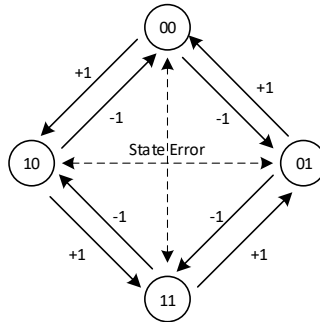

Fig 21-4 Q-Decoder phase state
The Q-Decoder is designed to decode the quadrature signals from I/O pin. It can generate the position counter (PC) and the direction by the state changes of the signal PHA and PHB. Therefore, the software can get the position by reading the related registers. Fig 21-4 shows how a Q-Decoder counts the position and detects the direction by PHA and PHB.